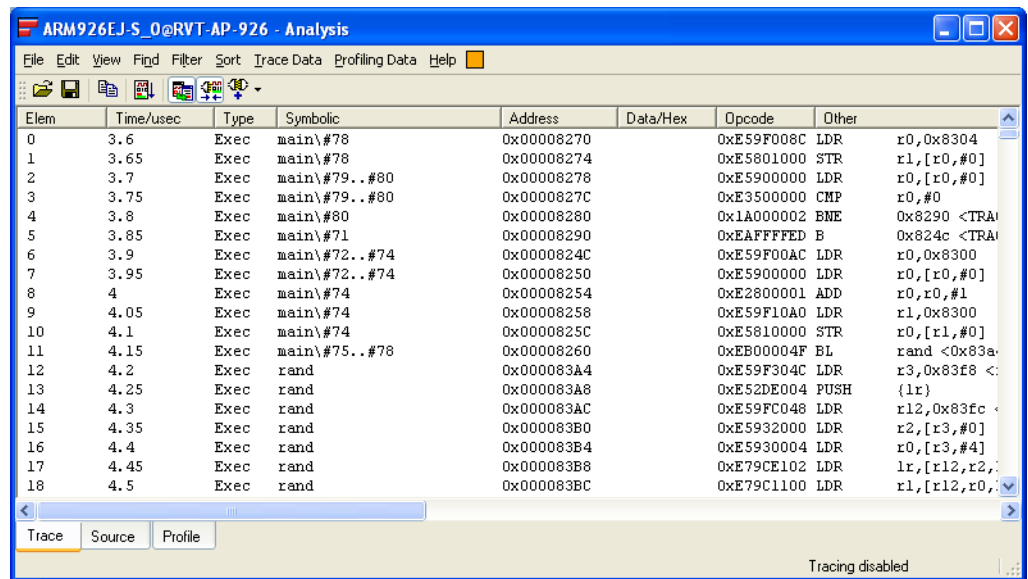

Figure 10-66 Captured trace after disabling trace for a running target
3. Select **Tracing Enabled** from the **Edit** menu of the Analysis window. Trace capture is disabled, as shown in the status line at the bottom of the Analysis window. Do not stop the target running at the moment. When you disable tracing, the captured trace is displayed. Figure 10-66 on page 10-64 shows an example: